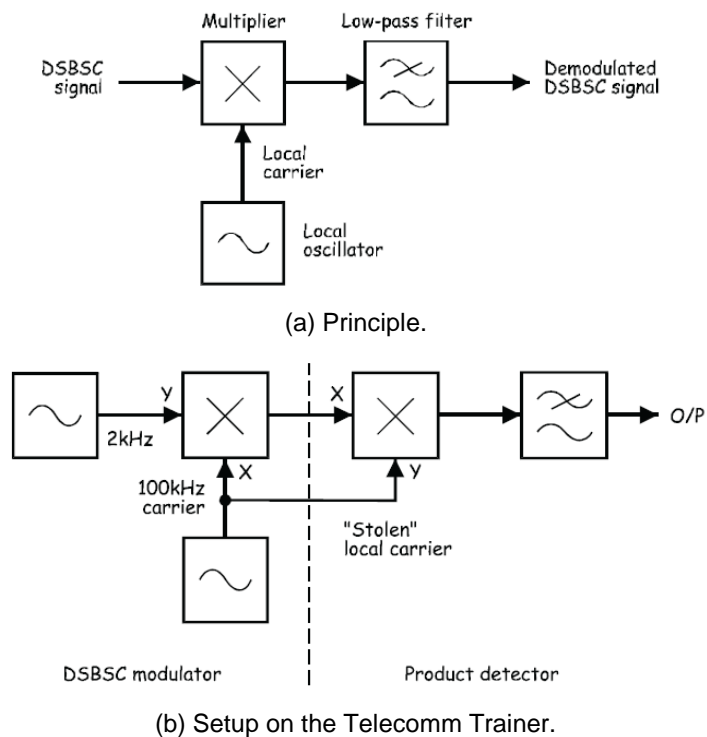

Figure 4.2 DSB-SC Demodulation (Product Demodulator).
- Modify your connection as shown in Figure 4.2. Use a second multiplier to implement the demodulator.